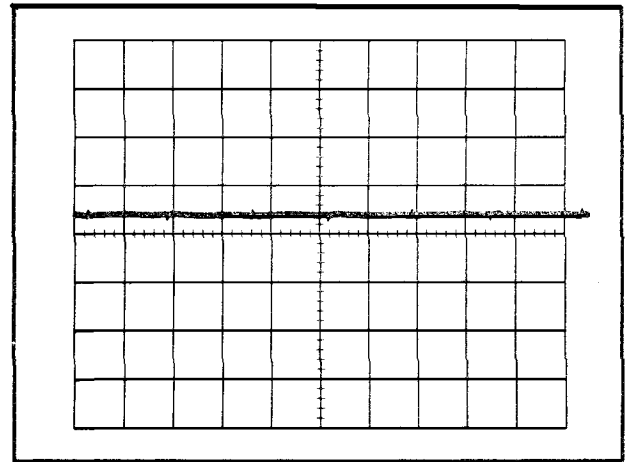

Fig. 2-3. Adjusting the DIFF BAL control to obtain a minimum amplitude display.
d. Ignoring the positive and negative-going spikes, adjust the DIFF BAL control (see Fig. 2-1) to eliminate any square-wave response; that is to obtain a minimum amplitude display similar to the waveform shown in Fig. 2-3.